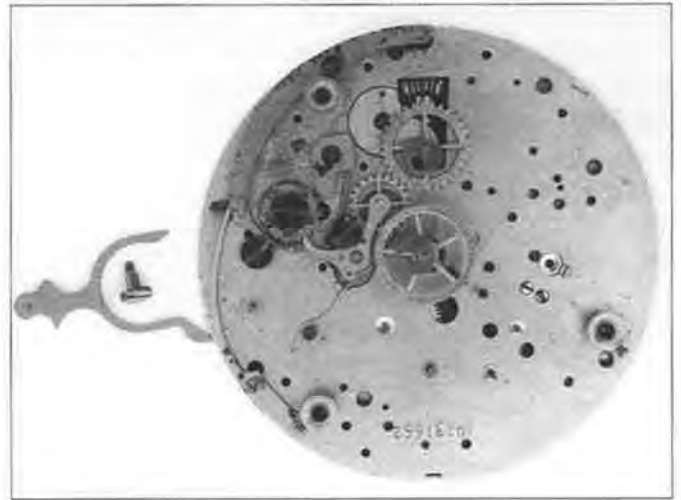

Figure 8
Step 7. Remove the flyback lever. When a lever such as this fits on a stud, the condition of the stud and the bearing in the lever should always be checked as the lever is removed. Figure 8 shows the screw and lever after their removal.